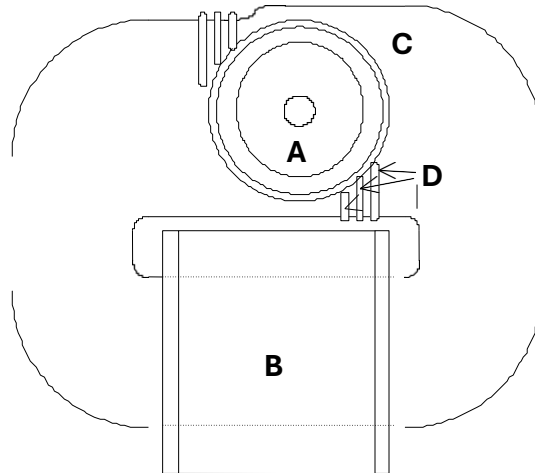

Figure 1
1. This question relates to the motor illustrated in Figure 1 below.
- a) Identify the type of motor illustrated in Figure 1.